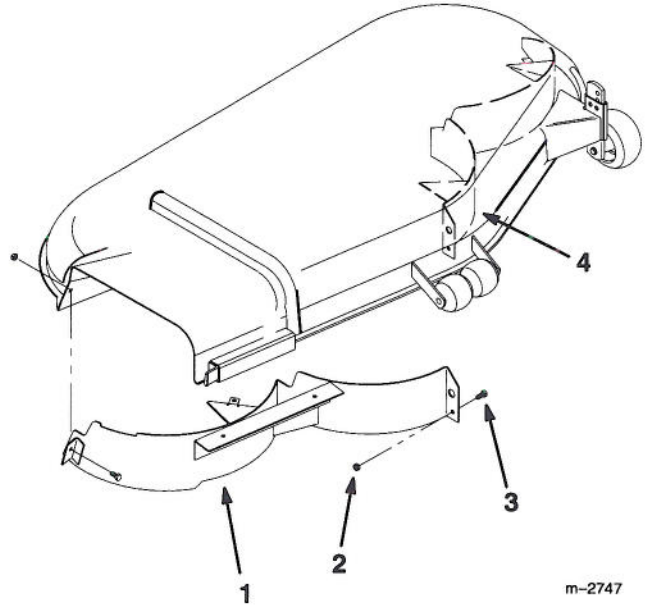

Figure 30
2. Remove the hex head screws and locknuts holding the right side baffle to the left side baffle and deck (Fig. 30).
3. Lower the right side baffle and slide it out of the discharge opening to remove it from the deck (Fig. 30).